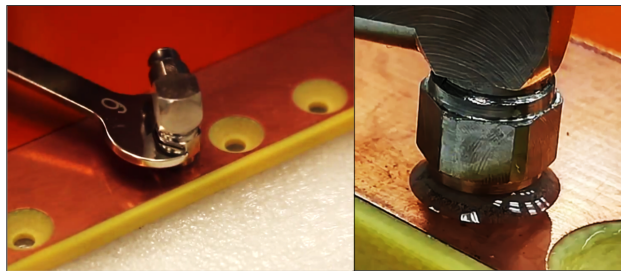

Figure 12: Fixing the gas connector onto the board.
Step 9: Gently screw the connector on the board until the base of the connector's body touches the readout board (Fig. 12 left). Make sure that the glue forms a nice and smooth ring all around the base of the connector (Fig. 12 right).